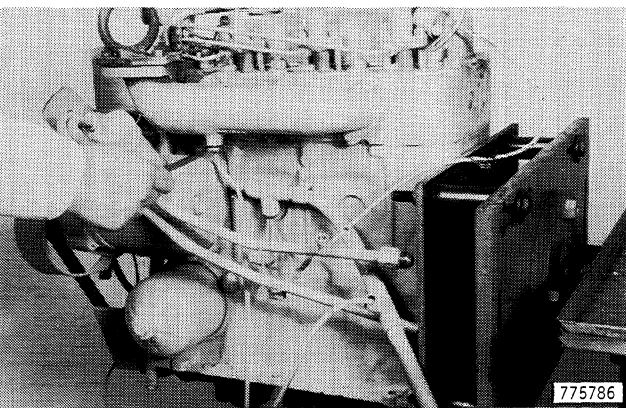

Figure 40
- 15. Remove the tube from the exhaust manifold, Figure 40.